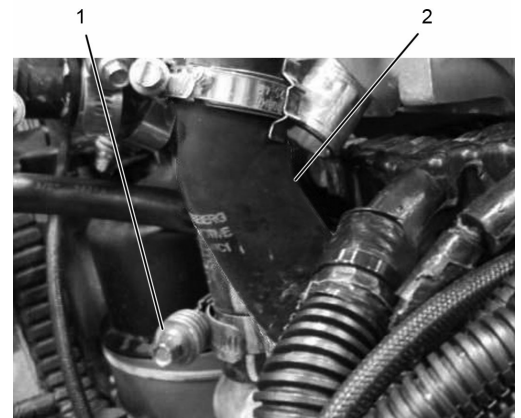

Figure 10
16. Loosen hose clamp (Figure 10, Item 1) and remove hose (Figure 10, Item 2) from CCV.